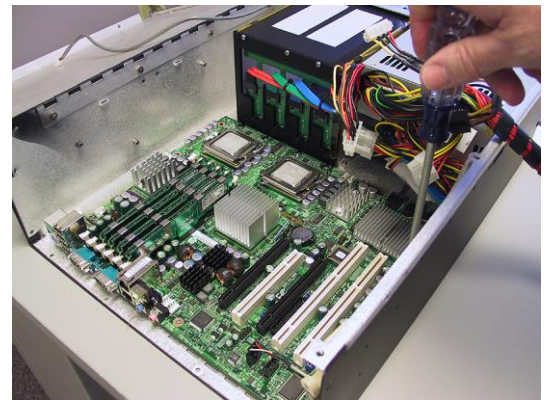

**Figure 5-126**
- 25) Remove the DVD ATA cable connecting to the ATA port of the motherboard as shown in Figure 5-126.